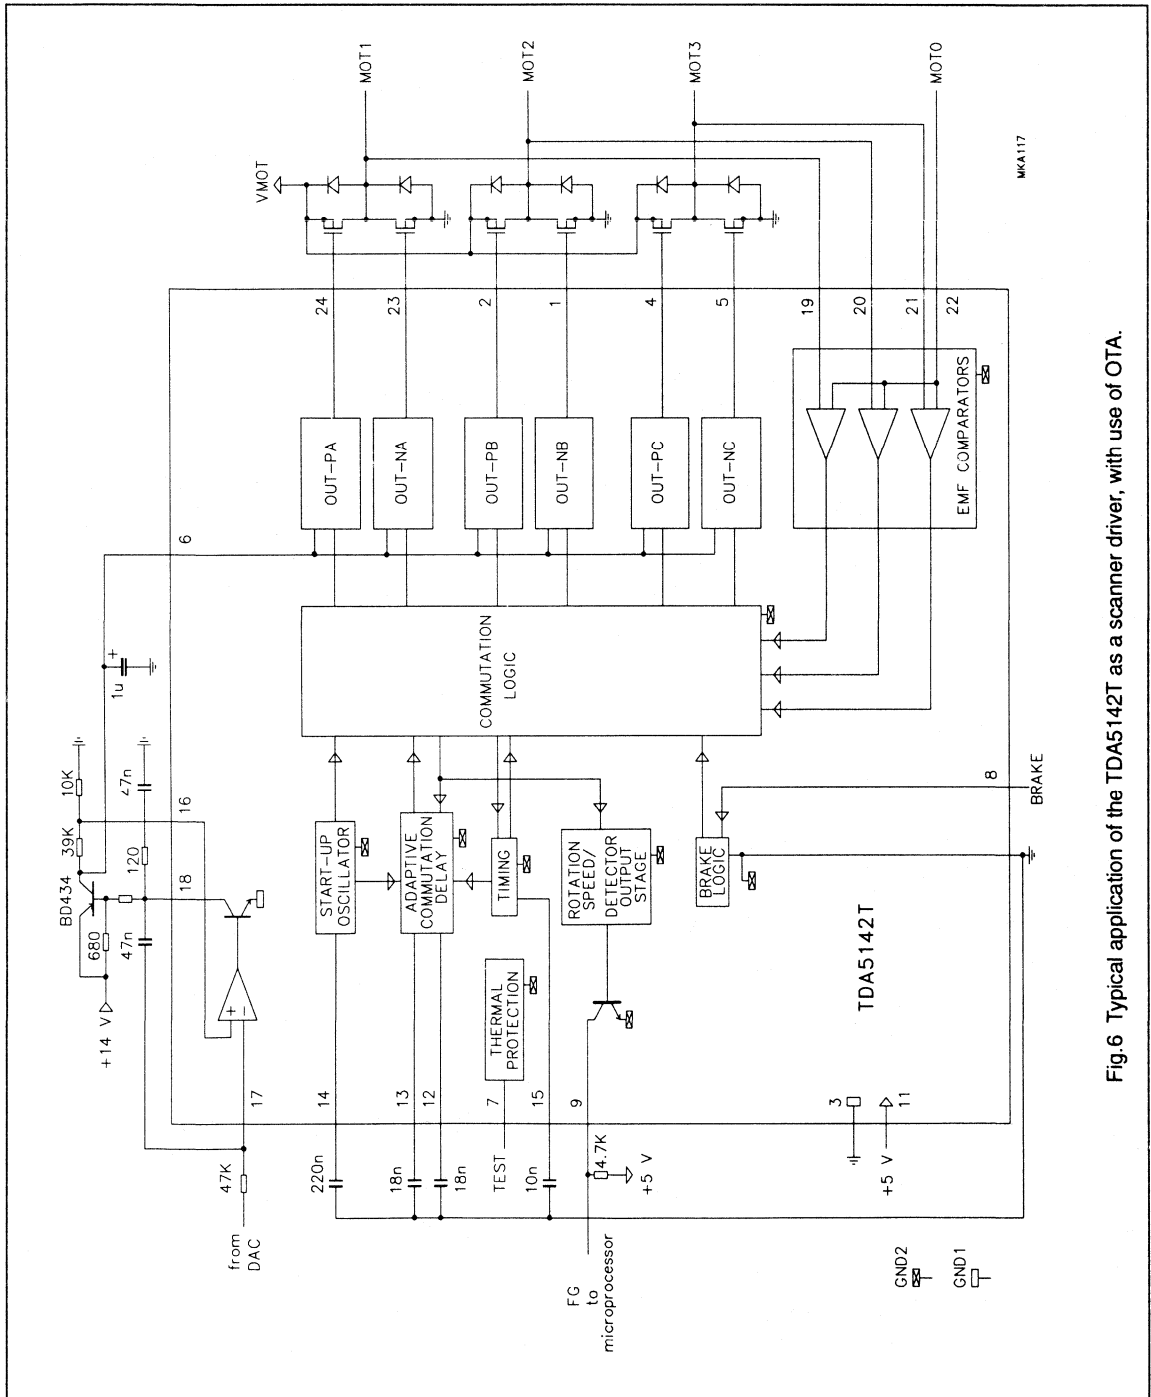

Fig.6 Typical application of the TDA5142T as a scanner driver, with use of OTA.
Introduction (see Fig.6)
- With analog control an external control transistor is required. The OTA can supply the base current for this transistor and act as a control amplifier (see Fig.6).
An alternative method of voltage control is to increase the output impedance for a certain frequency, such as the commutation frequency; the circuit illustrated by Fig.6 uses this method. The low output impedance increases to approximately 10 Ω at 900 Hz. This circuit diagram is an example of the application of the TDA5142T with a VTR scanner for a PAL recorder running at 1500 rpm. The input signal is a PWM 5 V signal. The FG signal is read by a microprocessor that runs the servo control program.